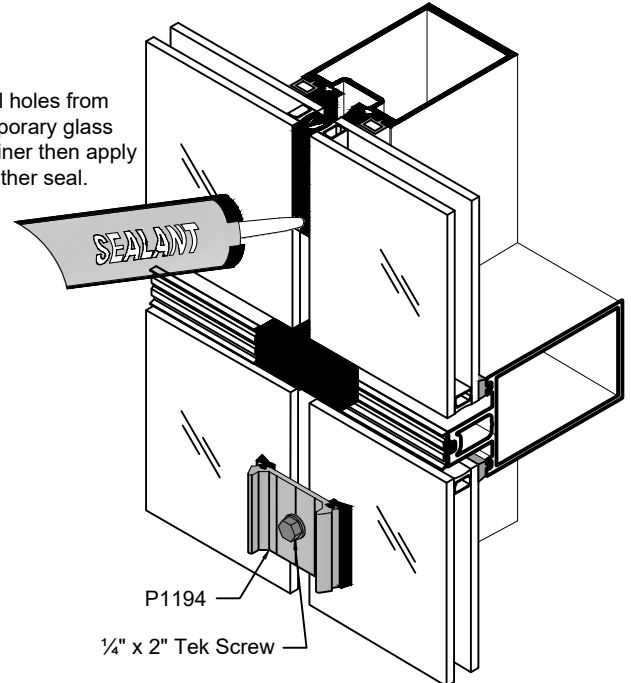

Fig. 47.3
F. For SSG vertical applications, where structural silicone is applied from interior, hold the glass in place at the vertical with P1194 temporary glazing clips and a 1/4" x 2" TEK screw. Tape off side of SSG vertical and glass prior to applying structural silicone. After structural silicone has cured per silicone manufacturer's recommendations, remove P1194 temporary glazing clips, seal hole in the SSG vertical from the P1194 screw and apply a weather seal between the lites of glass. See Fig. 47.3 for optional exterior applied structural silicone.